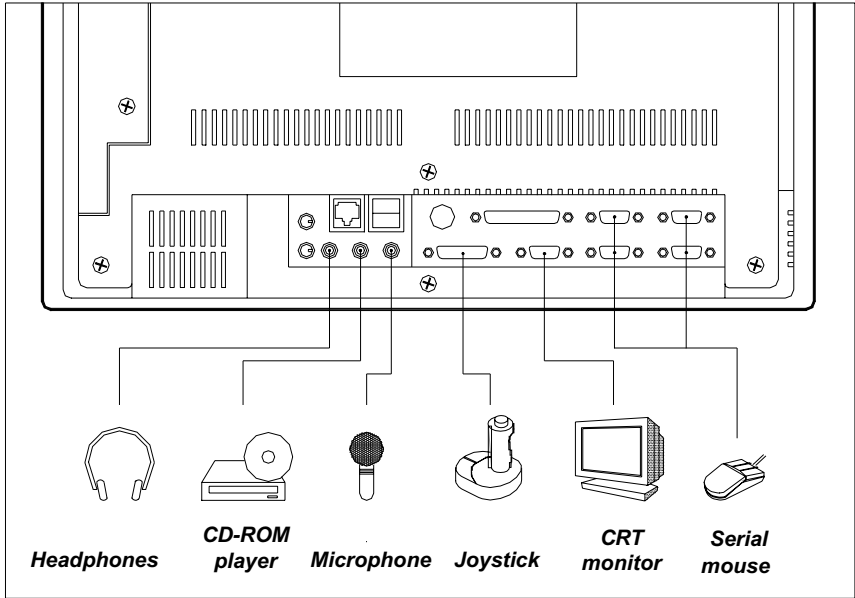

Figure 3-5: Using the I/O interface (lower level ports and COM ports)
2. Attach the interface cable of the serial device to the panel PC's serial port. (See Fig. 3-5.) If necessary, attach the other end of the interface cable to your serial device. Fasten any retaining screws.
2. Connect the external monitor to the system. (See Fig. 3-5.)
2. Connect the external joystick or game device to the system. (See Fig. 3-5.)
The audio interface includes three jacks: microphone in, line out and line in. (See Fig. 3-5.) Their functions are:
1. Connect the audio device to the system. (See Fig. 3-5.)